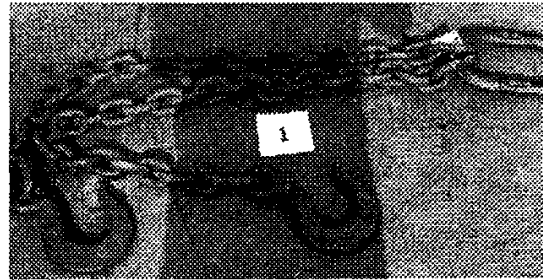

Fig. 7-1d Chain sling
- d Slings are widely used in the moving and hoisting of heavy loads. Fiber and synthetic line slings offer the advantage of flexibility and protection of finished material. Note that these slings are not as strong as wire rope or chain slings. Furthermore, fiber or synthetic line are more likely to be damaged by sharp edges on the material being hoisted. Wire rope slings offer the advantages of both strength and flexibility. Three commonly used types of slings are: endless, single leg (or strap), and bridle (ganged) slings. **NOTE:** Sling angle is extremely important for the safety of the lift by maintaining the safe working limit of the sling. It also prevents damage to the load (See Figure 7-1d.)